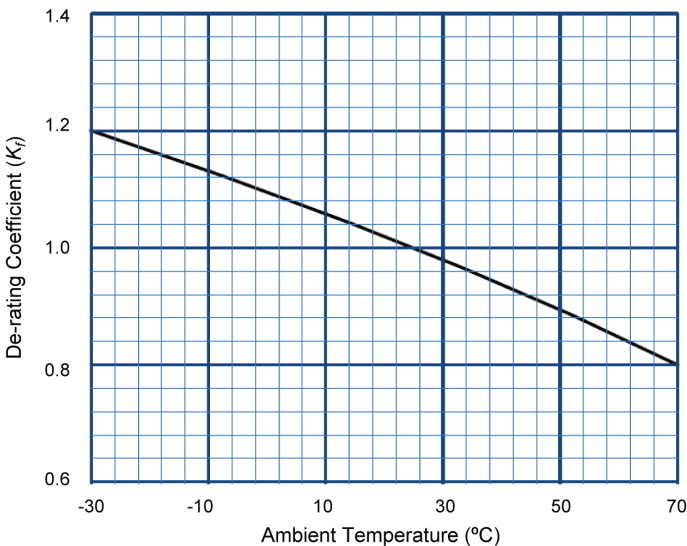

Figure 3: Mersen De-Rating Chart for Abnormal Ambient Temperatures
3. Worst-case scenario, if the fuses are operating in outdoor environments and there is exposure to direct sunlight and sustained temperatures exceed 40°C then a correction factor may be applied to prevent nuisance openings. In this scenario, a recommended fuse de-rating chart is provided by the fuse manufacturer and shown in Figure 3. First, determine the proper temperature de-rating coefficient (K_f) by identifying the sustained ambient temperature that the fuse will be exposed to on the horizontal axis. From that point, follow the graph vertically until you intersect the de-rating curve. From this intersection point follow the graph horizontally until you intersect the y-axis. This value on the y-axis is the temperature de-rating coefficient (K_f). Divide the nominal fuse ampere rating (I_n) calculated in Step 2 by the de-rating coefficient to determine the de-rated ampere rating of the fuse (I_{rated}). For ambient temperatures equal to 25°C, $K_f = 1$.